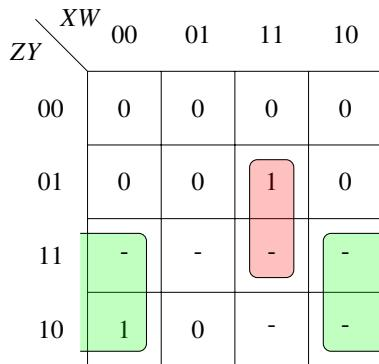

Fig. 4.8: K-map for  $D$  with don't cares
5. The revised K-map for D is available in Fig 4.8. Show that